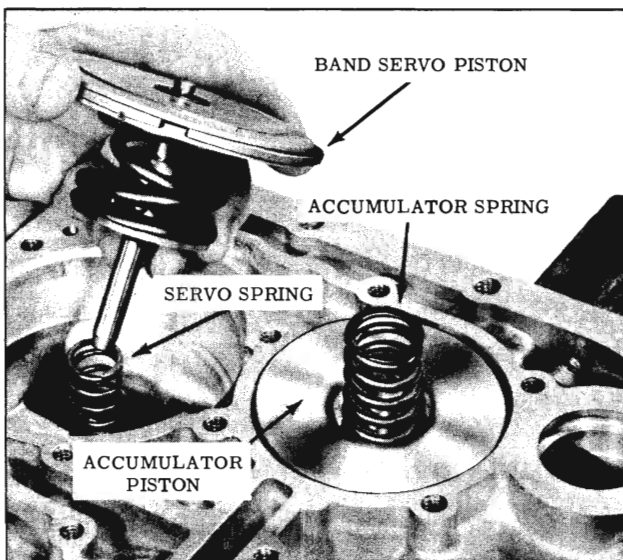

Fig. 3-120 Servo Installation
8. Install servo release spring into case bore. (Fig. 3-120)